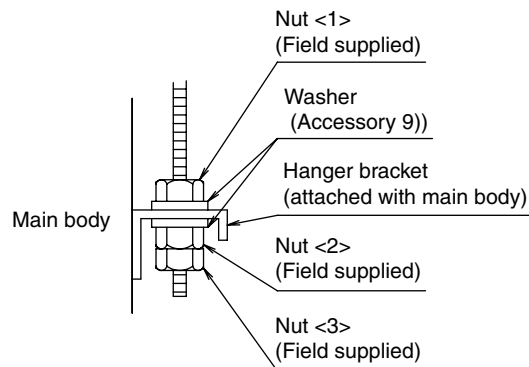

Fig. 4
- (2) Adjust the height of the unit with the nut <2>. (Refer to Fig. 4)
- (3) Make sure the unit is level.
- (4) Tighten both upper and lower nuts <1>, <3>. (Refer to Fig. 4)